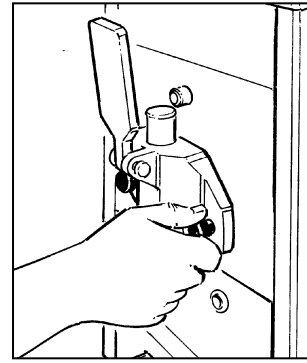

Fig. 7
- **U**nscrew the security knobs and remove the front flange (fig. 7 and 8).